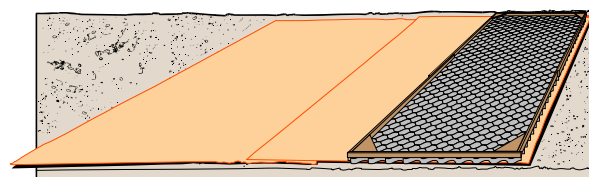

Figure 10 Use of Stretcher Frame
- **Option 3:** The use of stretcher frames is generally recommended only for underwater or extremely cold applications. Expand and fit the Geoweb® section over the dowels of a suitably dimensioned stretcher frame. Invert the frame and position the section to receive infill material. When the Geoweb® section is filled, remove the frame and repeat the process. See Figure 10.